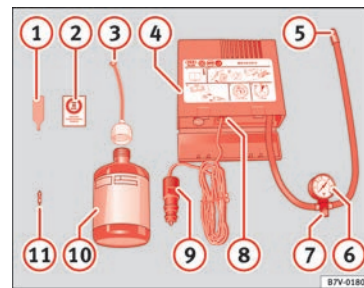

Fig. 50
- Unscrew the tyre valve cap and insert. Use the » » » Fig. 50 ① tool to remove the insert. Place it on a clean surface.
- Shake the tyre sealant bottle vigorously » » » Fig. 50 ⑩.
- Screw the inflator tube » » » Fig. 50 ③ into the sealant bottle. The bottle's seal will break automatically.
» **Fig. 50 ③** and screw the open end of the tube into the tyre valve.
- Place the insert back into the tyre valve using the tool » **Fig. 50 ①**.
» **Fig. 50 ⑤** into the tyre valve.
» **Fig. 50 ⑦**.
- Insert the connector » **Fig. 50 ⑨** into the vehicle's 12-volt socket » **page 113**.
- Turn the air compressor on with the ON/OFF switch » **Fig. 50 ⑧**.